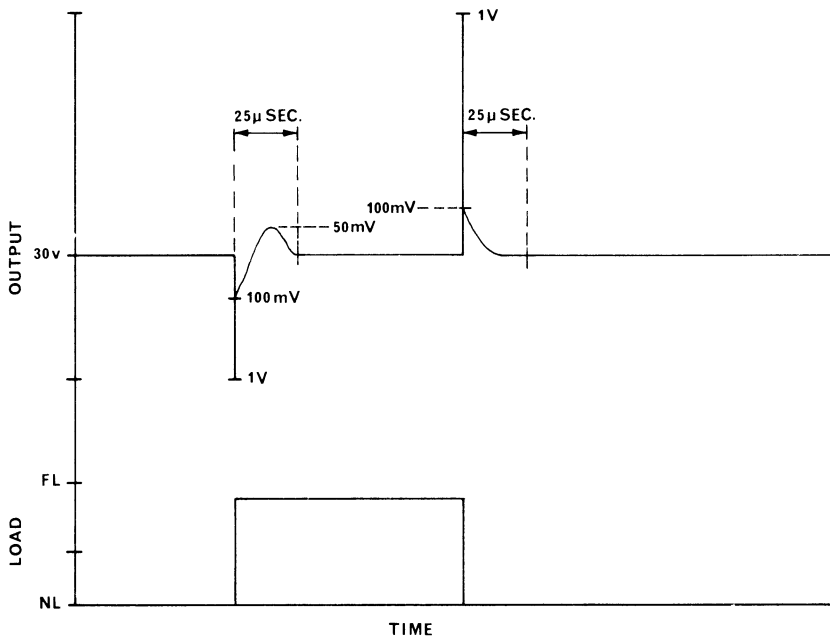

Fig.4. PULSE RESPONSE
- (ii) Transient Response - Typical response to a pulsed load is shown in Figure 4.